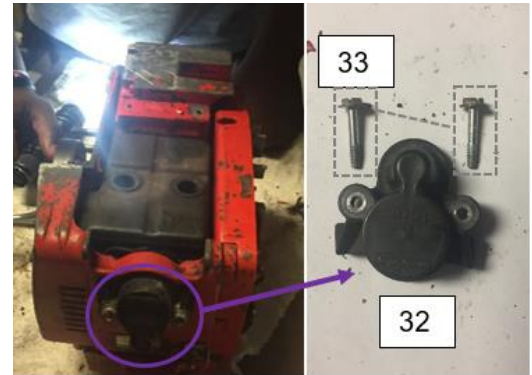

Figure 17: Transformer Cap Removal
Step 13: Looking at the back of the main assembly, a Black Transformer Cap (32) is visible. Use a 1in wrench to unscrew two Transformer Bolts (33) and manually remove the Transformer Cap from the main assembly. (Figure 17)